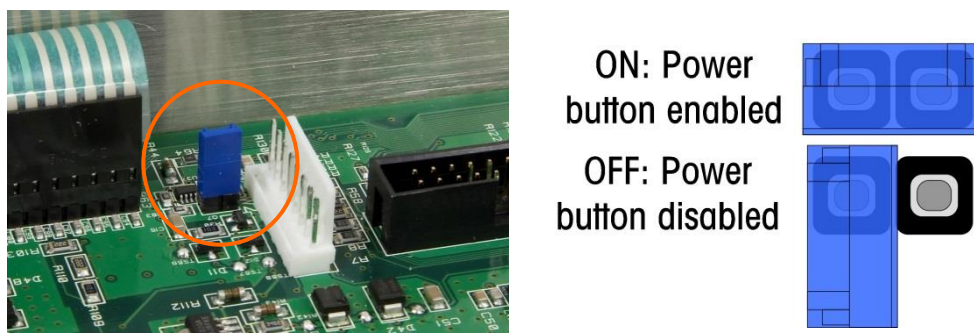

Figure A-47: On/Off Key Disable Jumper
There is a jumper, W2, close to the keypad connection that determines if the On/Off key operates or if the key function is disabled and the IND560x terminal always power up in the "On" condition. In applications where an operator is not normally present, it is suggested that the jumper be removed from the two pins so the terminal will return to operation after a power outage. Figure A-47 indicates the jumper's location and positions.
- When removing the W2 jumper for disabling the On/Off key, reposition it on just one of the pins as shown at lower right in Figure A-47. The On/Off jumper settings are described in Table A-21.